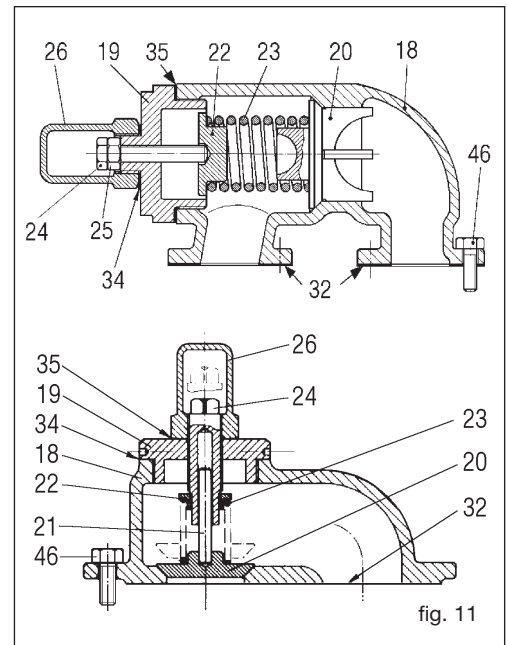

fig. 11
10.5 Regulation of the by-pass relief valve (fig. 11) (Example of setting at 8 bar)
- Unscrew the cap (26)
- Loosen the lock nut (if fitted) (25).
- Tighten the regulation screw (24) almost as far as it will go (turn the screw clockwise to load the spring).
- ❑ If the pump mounts a by-pass relief valve (figure 11) on the cover (07) it is not necessary to remove it. If, however, the by-pass also requires maintenance, unscrew the screws (46) and remove it, taking care not to damage the gasket(s) (32). If the gaskets are damaged, replace them.